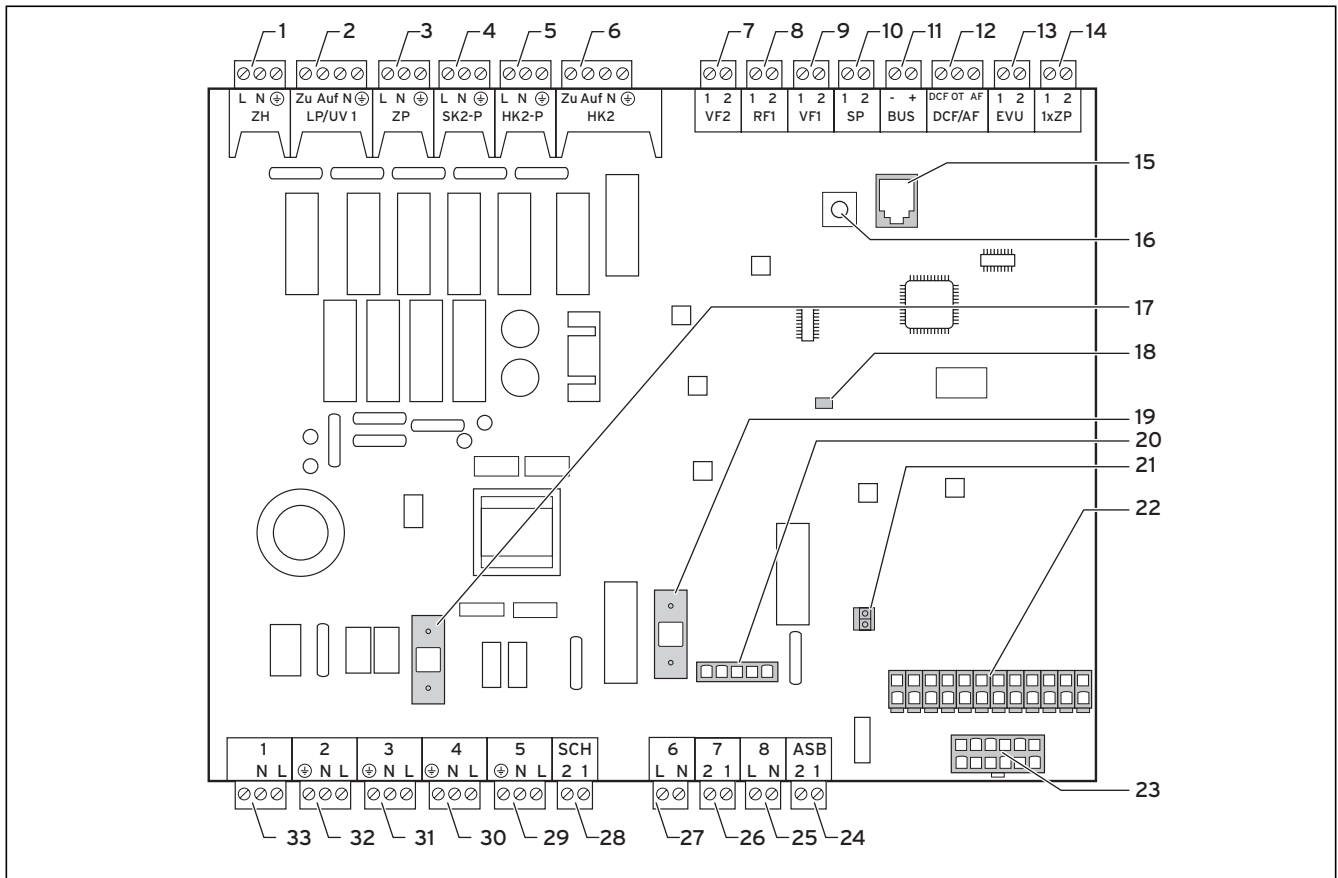

Fig. 6.7 Controller PCB
- Connect the ripple control signal relay to terminal 13 "EVU", if required by the power company. This signal blocks the heat pump when the contact is closed (see Fig. 6.7).
- Connect the permanent power supply to the high tariff mains feed (2).
- Connect the low tariff power supply to the low tariff mains feed (1).
Key to Fig. 6.7